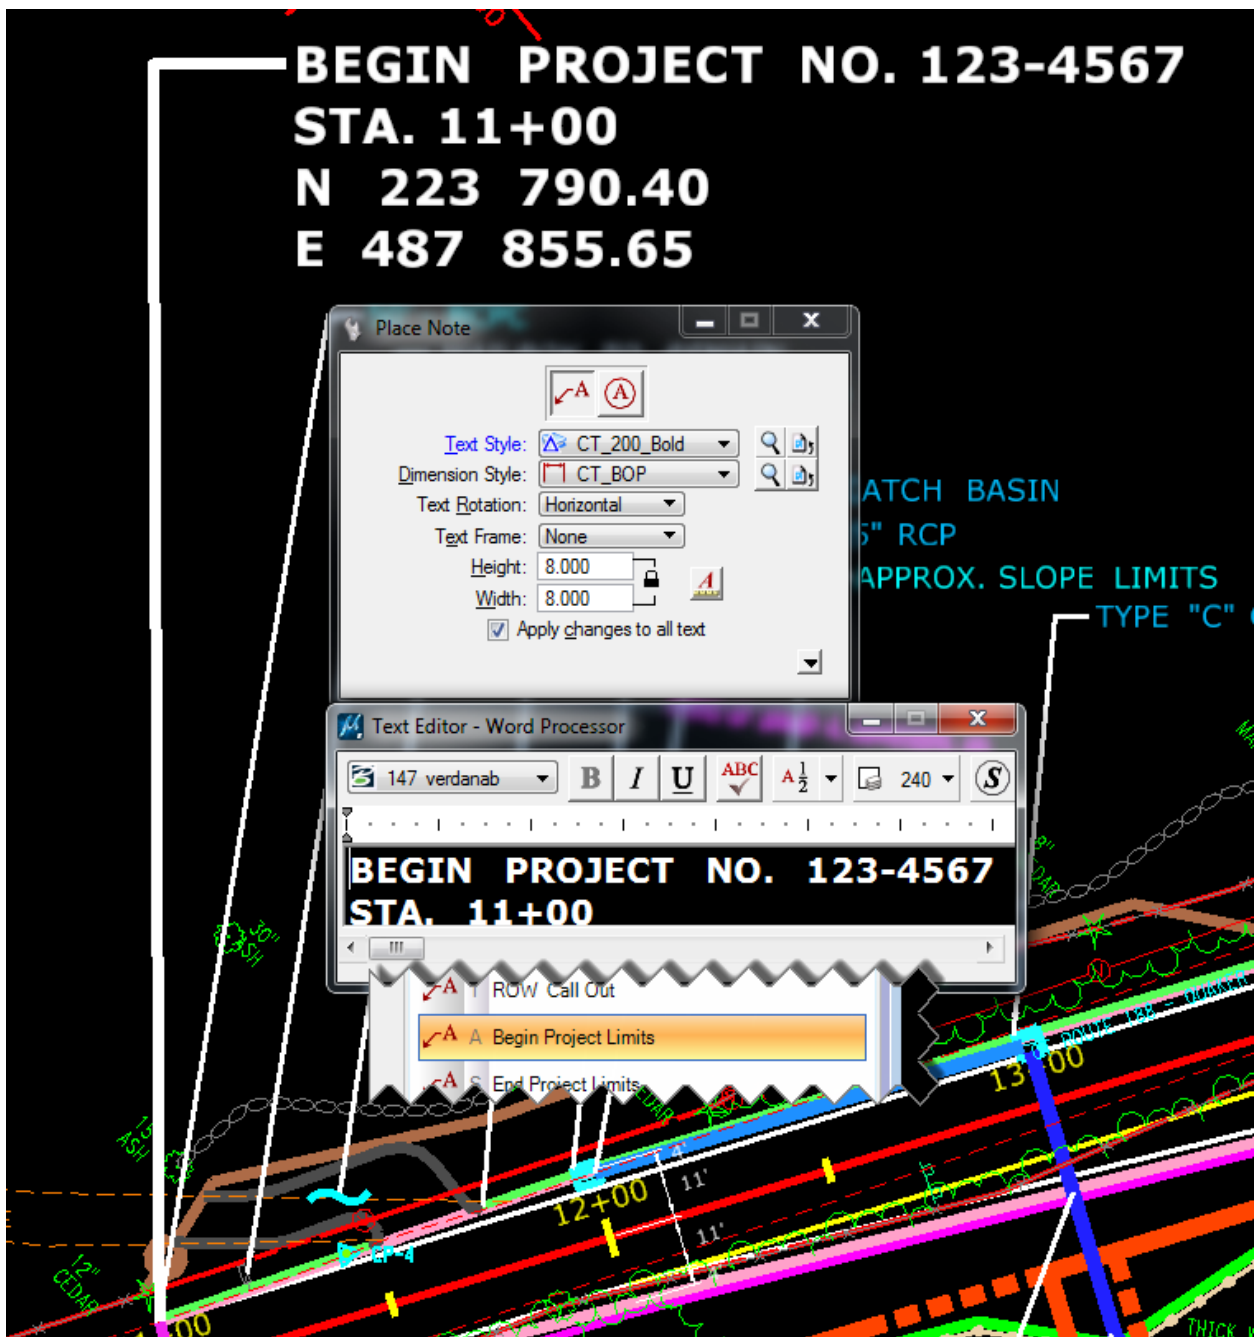

Figure 74 - Project Limits
4. **Place the note** for Begin/End Project Limits and include project number, stationing and Northing/Easting (see Figure 74).